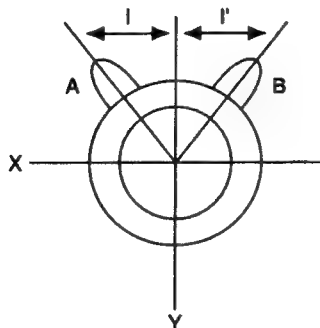

Fig. 3-14 Good example
3. Align the vertical location of R, G, and B in the center of the screen with the V-STAT Mg. (Fig.3-14, 3-15)